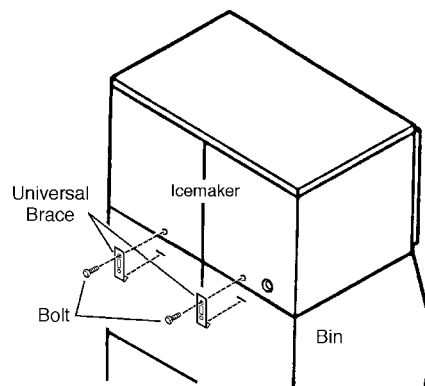

Fig. 2
- 4) Secure the icemaker to the Storage Bin by using the two Universal Braces and two of the bolts provided. See Fig. 2.